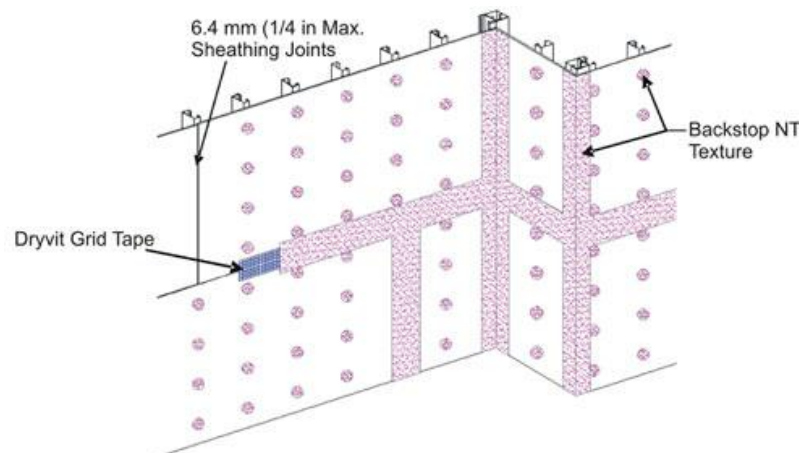

Figure 1
- Apply Dryvit Grid Tape as described in Section IV.E.1 above. Mix the material, as described in Section I and using a stainless-steel trowel or spatula, apply a layer of Backstop NTX-VB over the grid tape. Spotting of fasteners is not necessary when applying Backstop NTX-VB using a trowel. Allow to dry for a minimum of 2 hours or until dry to the touch. Figure 1.